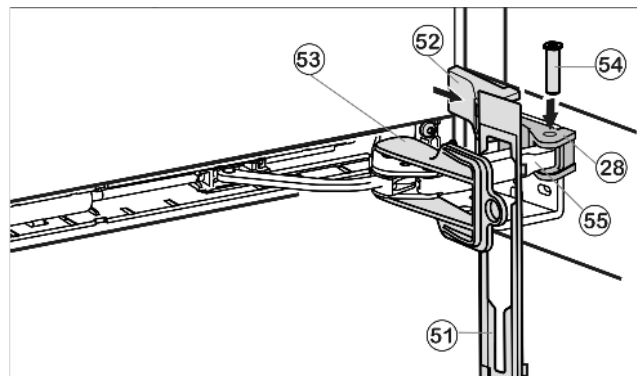

Fig. 24
- ▶ Hook panel *Fig. 24 (51)* into the damper bracket such that the detent hooks are pointing forward and the front side is facing the appliance.
- ▶ Pull damper bracket *Fig. 24 (55)* towards bearing part *Fig. 24 (28)* and insert bolt *Fig. 24 (54)* from above such that the square is resting in the recess.
- ▶ Place cover *Fig. 24 (52)* on top and snap into place.
- ▶ Remove locking device *Fig. 24 (53)* by twisting it.
- ▶ Snap panel *Fig. 24 (51)* into place on the door.